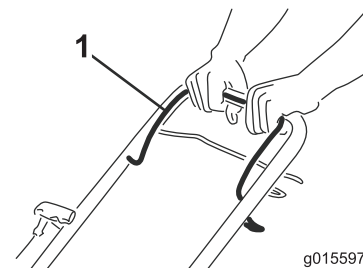

Figure 16
1. Hold the blade-control bar (Figure 16) against the handle.